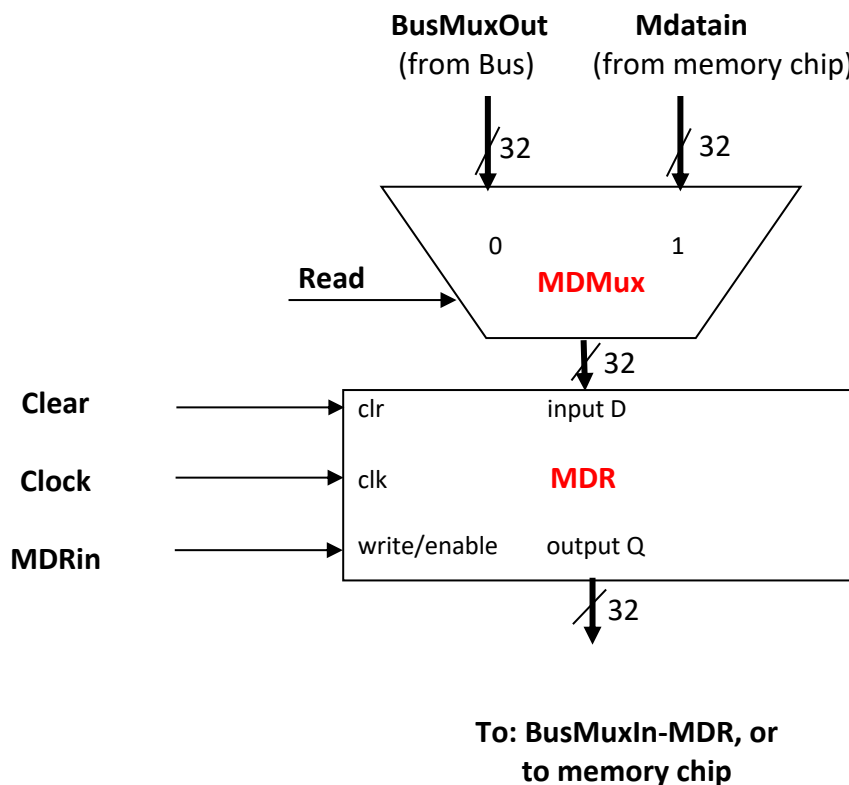

Figure 4: The MDR unit
Memory Data Register: The *Memory Data Register (MDR)* is different from the other registers in the sense that it has two input sources and two output sinks. Figure 4 presents how *MDR* is connected to the memory bus, and to the internal bus. The inputs to the *MDR* comes from the memory unit (**Mdatain**) or from the Bus (**BusMuxOut**). Data is stored in the *MDR* using the synchronous *Clock* signal and the *MDRin* control signal. The *MDR* contents can be written into the memory chip or drive the Bus.
3. Design the MDR unit (Figure 4) and connect it to the BUS. Leave the rest of the Memory Subsystem (connection to the memory chip) for Phase 2.